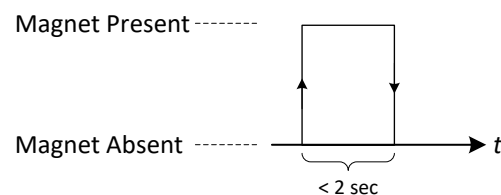

Figure 1-6: The Magnetic UL-Trigger Pattern
The magnetic pattern for this case involves placing and taking away the magnet to and from the magnet sign at the bottom of the enclosure briefly for less than 2 seconds, as shown in Figure 1-6. *It is important to note here that mistakenly holding the magnet attached to the module for more than 3 sec may trigger a module reset, as explained in item 1 above.*
Since DLs can only be received by the Sensor during the Rx window which is opened after sending an UL, it is sometimes desirable to force the Sensor to send an UL instead of waiting for the next one. This can be done by physically applying the magnet with the pattern specified in Figure 1-6 in Section 1.2.